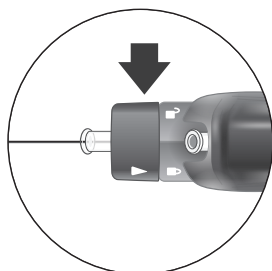
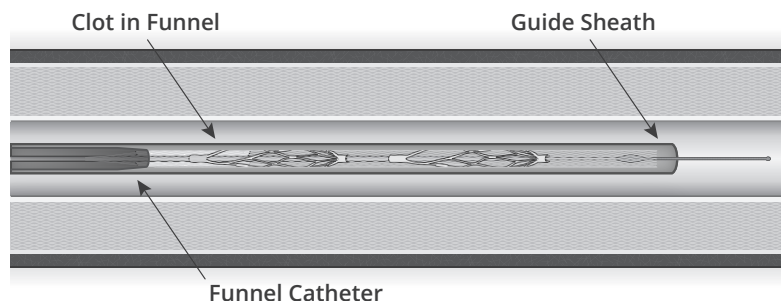

Figure 13a
Figure 13b
15. Rotate the wire lock on the proximal end of the handle to the locked position to lock the basket wire and funnel catheter together (Figure 13a). Holding the funnel catheter handle, pull back to capture the basket wire and funnel catheter completely into the guide sheath (see Figure 13b).